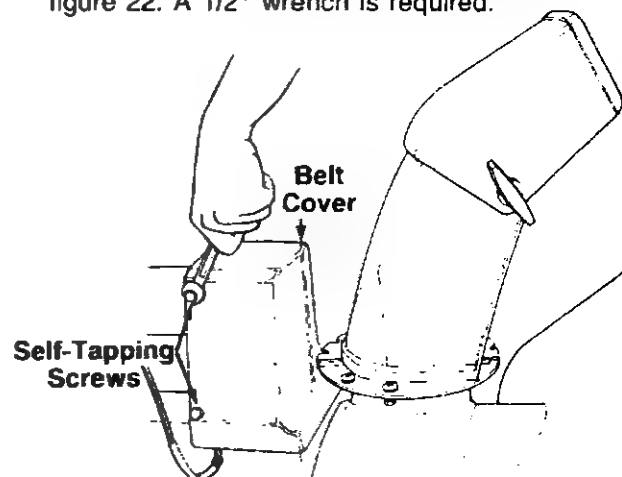

FIGURE 22.
3. Remove the plastic belt cover on the front of the engine by removing three self-tapping screws. See figure 22. A 1/2" wrench is required.